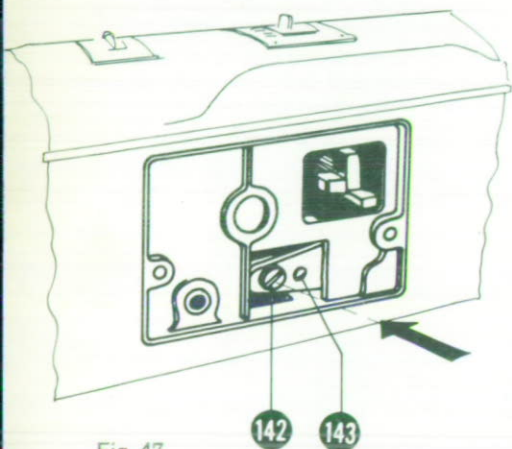

Fig. 47
If it is necessary to shift the scanner forward, loosen screw (142) below bobbin holder. Unscrew bobbin holder. When turning screw (143) clockwise the scanner goes forward, if the scanner is to be moved back the opposite procedure should be followed, then retighten screw (142). See Fig. 47 and 50.